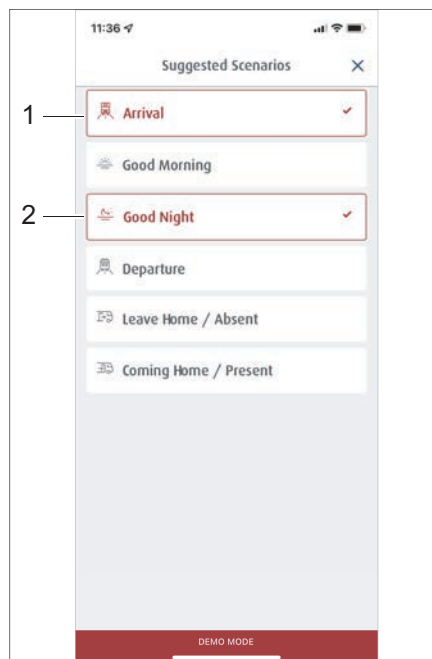

Fig. 277 Selecting preset scenarios
- Click on the desired scenarios, e. g. *Arrival* (Fig. 277,1) and *Good Night* (Fig. 277,2).